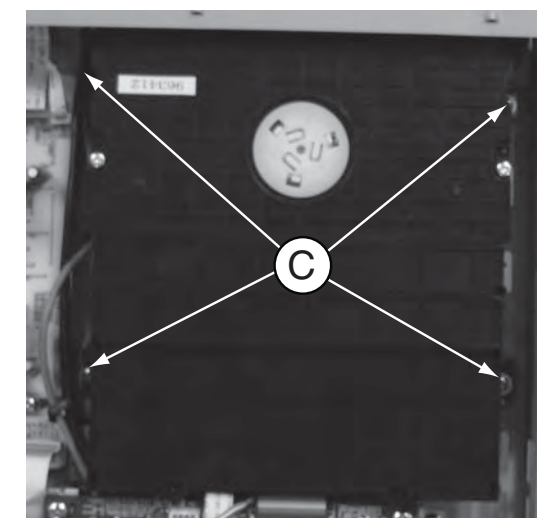

Figure 9
- 1) Loosen 4 screws "C" at the BD Module as shown in figure 9.